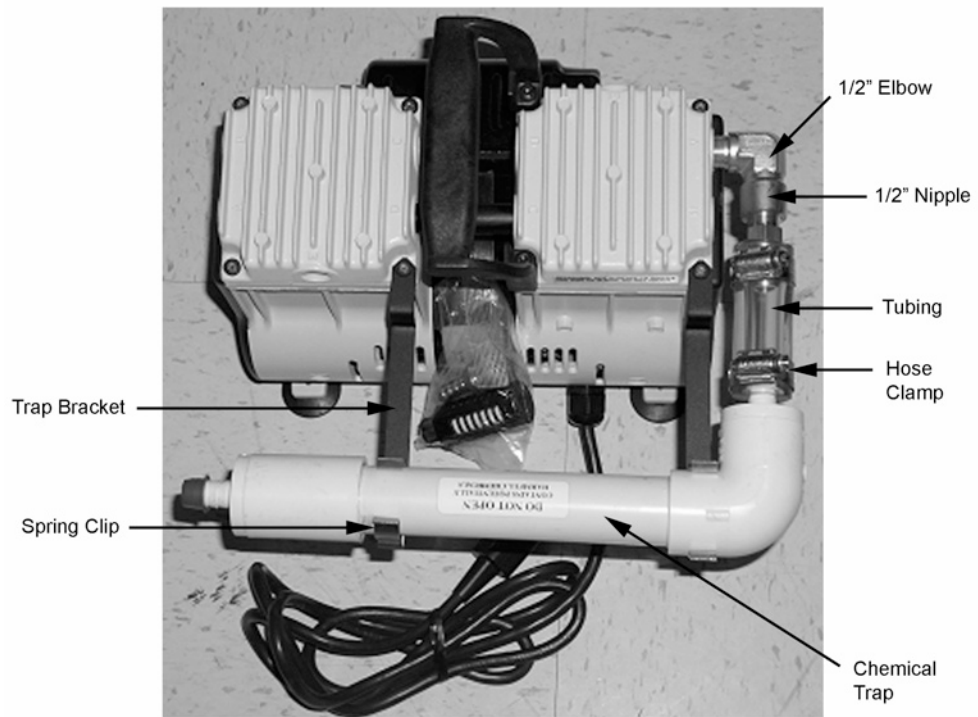

Figure 15 The Welch Dry Piston Pump
- 1 Remove the pump from its packaging and place on an accessible work surface with the power cord side nearest to you and the pump "INLET" port to your right. Refer to Figure 15 as a visual aid to these instructions.
- 6 Attach the brackets to these locations using the Torx screws as showing in Figure 15.